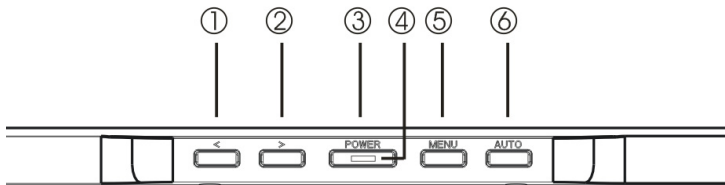

Figure 4. Monitor features
1. First start your PC and then turn on your monitor using the power switch (④ in fig. 4). The status indicator (④ in fig. 4) should light up green.
You can adjust the image settings (such as brightness, contrast, image position, phase, etc.) manually or by using the LCD monitor's automatic image adjustment feature. This will adjust the image parameters to their optimal settings for the current graphics mode. Press **SELECT/AUTO** (① in fig. 4) to launch the automatic adjustment. The process will take a short while until completed.
You can adjust the speaker volume of the integrated audio system directly by pressing the ◀ or ▶ buttons (③ and ② in fig. 4) while the OSD menu is inactive. Next press the ▶ button to increase the volume or the ◀ button to decrease it.
You can adjust brightness and contrast directly by pressing the ▲ or ▼ buttons (⑥ and ⑤ in fig. 4) while the OSD menu is not displayed. Next, press the ▲ or ▼ buttons (⑥ and ⑤ in fig. 4) to adjust the brightness or the ◀ or ▶ buttons (③ and ② in fig. 4) while the OSD contrast.
You can mute sound playback by pressing the ◀ or ▶ buttons (③ and ② in fig. 4) while the OSD menu is not displayed. Next, press the ▼ button to mute the sound or the ▲ button to reactivate it.
Press the **MENU** button (④ in fig. 4) to display the OSD menu on the screen.
1. There are a total of 5 OSD submenus divided by categories. Select the desired submenu by pressing the OSD button ◀ or ▶ (① and ② in fig. 4; see section "OSD Menu Functions").
2. Press the OSD button **MENU** (④ in fig. 4) to activate the selected function or associated submenu.
3. If you selected submenu, now select the sub-function you want using ◀ or ▶ (① and ② in fig. 4)
4. Set the desired value using the OSD button < or > (① and ② in fig. 4)
6. The OSD menu automatically disappears if no changes are made for more than 45 seconds (default setting). The current settings will be saved. You can close it manually by pressing the button **AUTO** (⑥ in fig. 4).